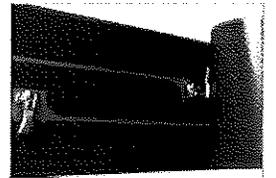

Figure 1
2. Bend the iWave-M back on top of itself (DO NOT bend under with hook and loop backing facing each other) so the brush pairs on the top will lay next to the brush pairs on the bottom, shown in Figure 1.